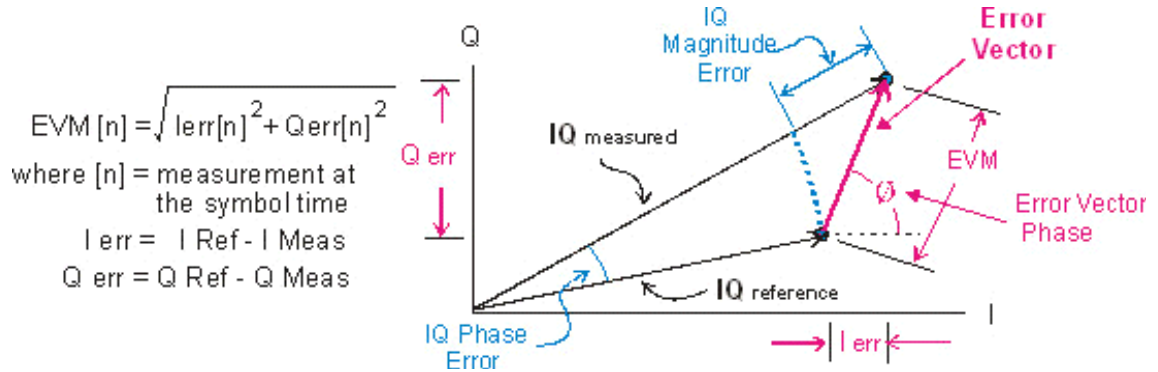

Figure 5.4 Graphical representation of $EVM(n)$ for the n^{th} received symbol.
Subplot (D) shows the demodulator performance parameters of Error Vector Magnitude (EVM) and Modulation Error rate (MER) that the VSA measures automatically. The EVM is the distance between the received points in the constellation and the ideal one (see Figure 5.4 for a graphical explanation).